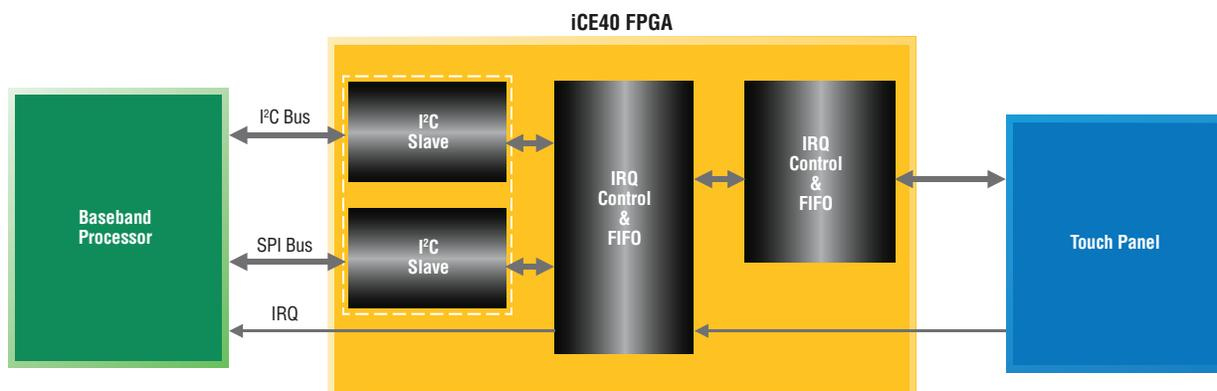

Figure 2: Interrupt Aggregator Design using the iCE40 FPGA
- Interrupt aggregator (Figure 2)